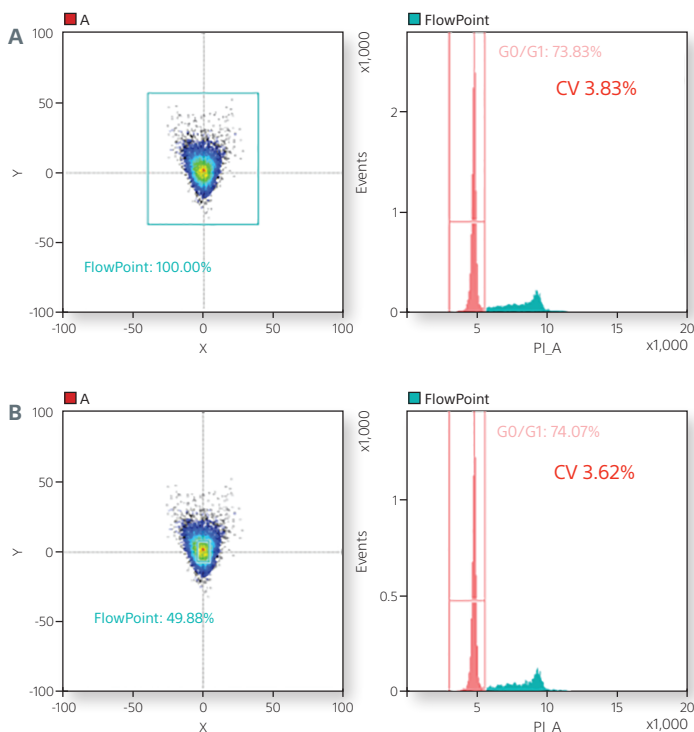

Figure 5. Gating on FlowPoint improves CV.
Figure 5 shows a cell cycle measurement using FlowPoint. When gated on all events on the FlowPoint plot, the CV of G0/G1 population is about 3.83% (A). In this example, when the region is focused only on events passing through the center of the flow cell, the CV is reduced to 3.62%. This is a well-known effect in hydro-dynamical focusing however using FlowPoint this effect can now be monitored, measured and, if necessary, corrected. Thus FlowPoint provides a cleaner result by allowing the user to monitor the status of the fluidics directly. Gating based on time and FlowPoint allows the user to remove erroneous data, caused by air bubbles or cell aggregates, from the measurement.